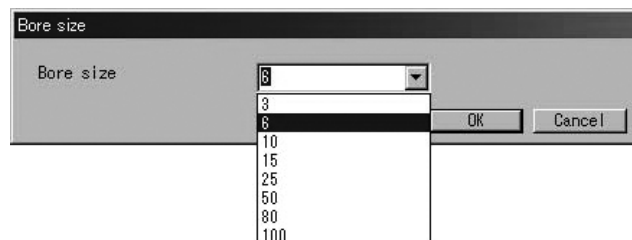

Fig.58
- ③ Click on the arrow mark at right and select from the drop-down list the bore size to be set as shown in Fig. 58.